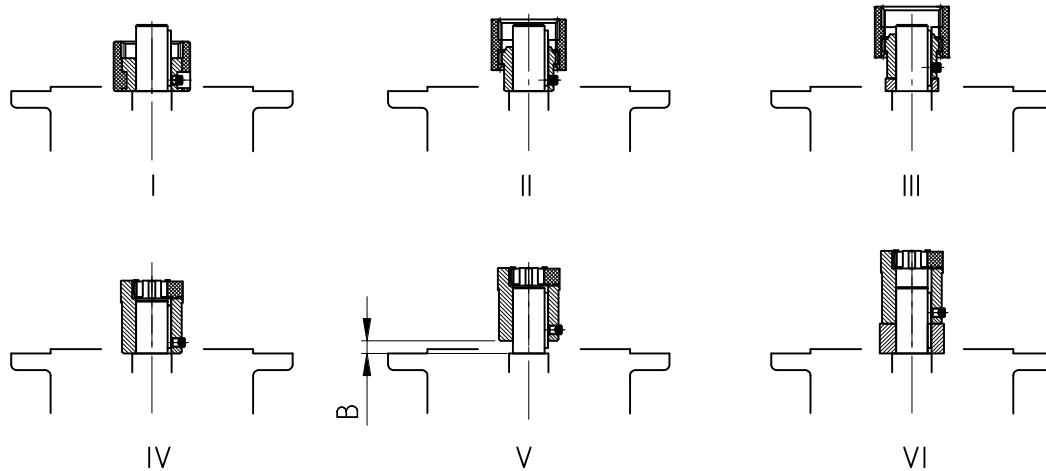

Figure 3-12: Fitting the coupling onto the motor shaft - various types of coupling
6. Mount the motor to the adapter, do not forget to fit the gear rim or the sleeve. (See Figure 3-12)